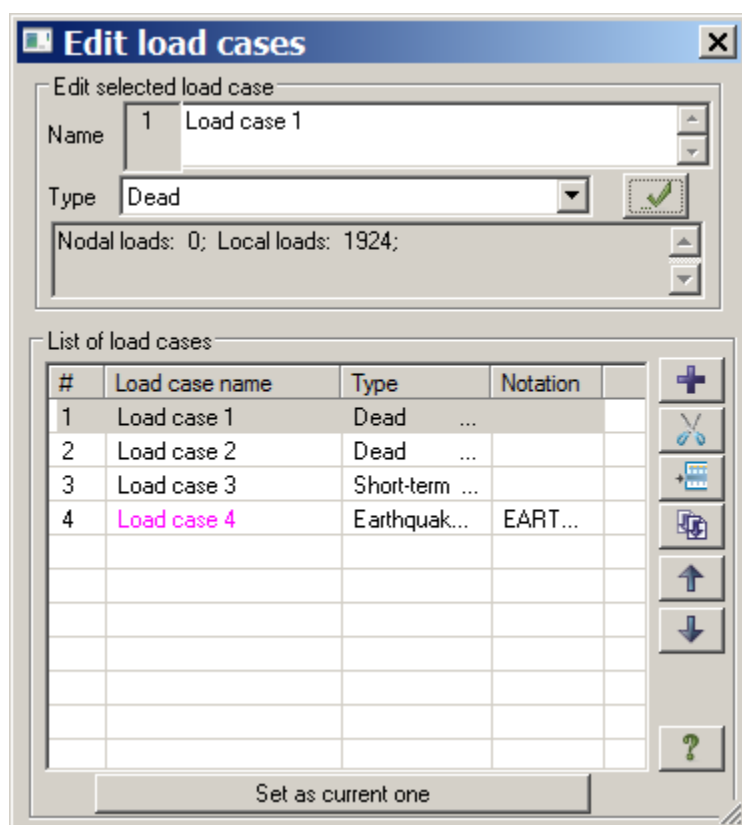

Figure 4.26 **Edit load cases** dialog box
- ⇒ On the **Create and edit** ribbon tab, on the **Loads** panel, click **Edit load cases** . The **Edit load cases** dialog box is displayed on the screen (see Fig.4.26).
As the type of load cases was defined in the **Edit load cases** dialog box (see Fig.4.26), the DCF table is generated automatically with parameters accepted by default for every load case. Now you have to modify parameters for the third load case.